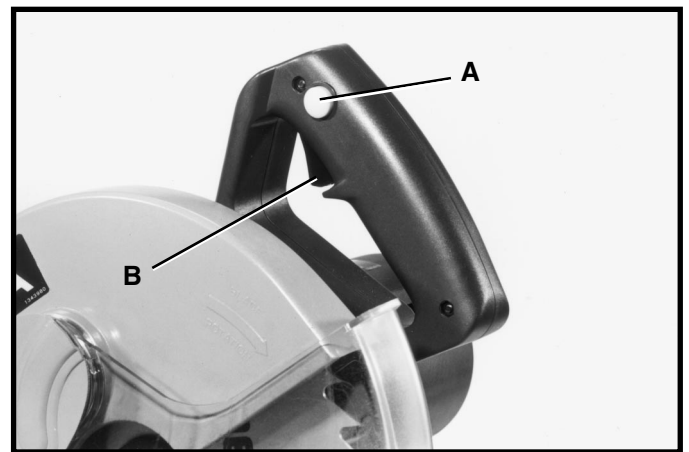

Fig. 13
To turn the saw “ON” push in on switch lock key (A) Fig. 13, and depress switch trigger (B). To turn the saw “OFF” release switch trigger (B).
Your compound miter saw is equipped with an automatic electric blade brake. As soon as the switch trigger (B) Fig. 13, is released, the electric brake is activated and stops the blade in seconds.